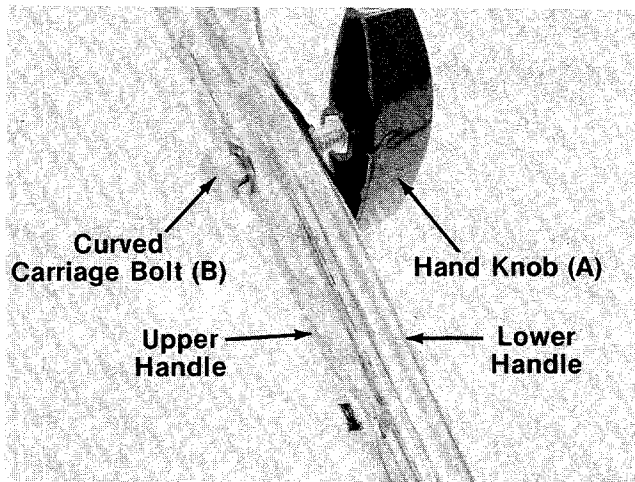

FIGURE 4.
- ← Secure with two curved carriage bolts (B) and handle knobs (A) as shown in figure 4. The knobs can be either to the inside or the outside of the handle.